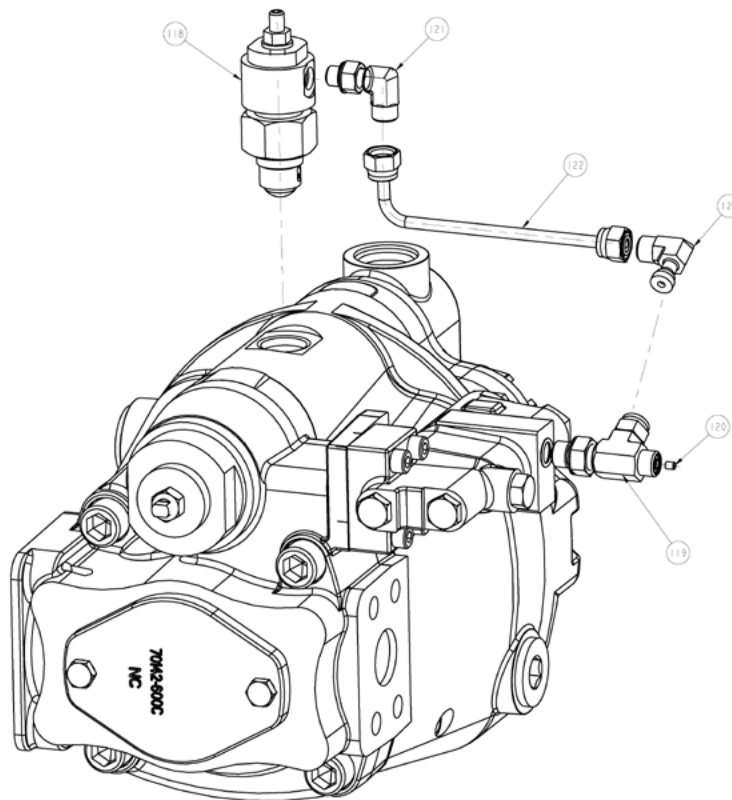
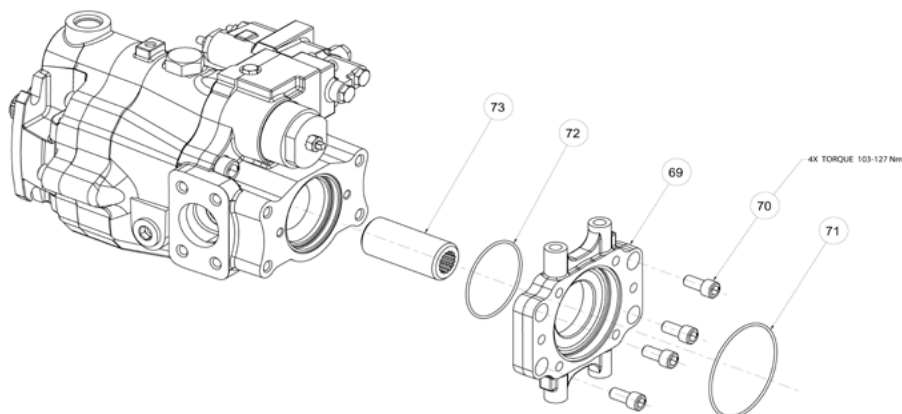

Figure 32
Figure 33
1. Remove the O-ring (Figure 32, 71).
2. Remove the coupling (Figure 32, 73).
3. Remove the screws (Figure 33, 70) (there are 3 screws for PVM45 and 4 screws for PVM57-141) and take off the series pump flange (Figure 32, 69).
4. Remove the O-ring (Figure 32, 72).
Apply lubricating grease to the O-ring (Figure 32, 72) and then fit it onto the series pump flange (Figure 32, 69).
Install the screws (there are 3 screws for PVM45 and 4 screws for PVM57-141), and fix the series pump flange (Figure 32, 69) to the end cover. Tighten the screws of the PVM45 series with a torque of 63-77 Nm and tighten the screws of the PVM57-141 series with a torque of 103-127 Nm.
Apply lubricating grease to the O-ring (Figure 32, 71) and then put it over the series pump flange (Figure 32, 69).
Insert the coupling (Figure 32, 73).